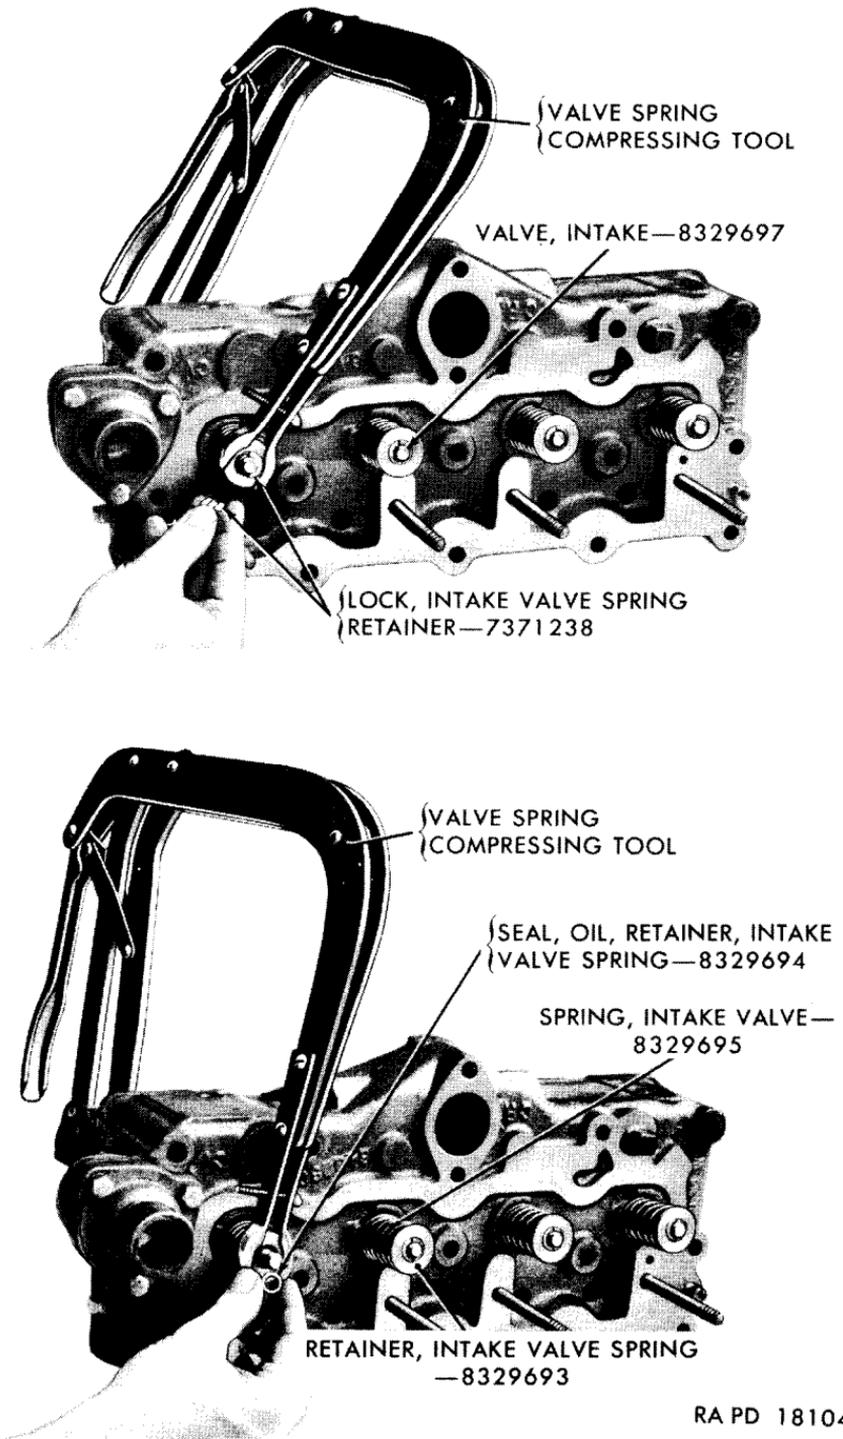

Figure 34. Removing intake valve.
f. Use a standard valve spring compressing tool (fig. 34) to compress the intake valve spring. While holding the valve spring compressed, remove the intake valve spring retainer locks and the intake valve spring retainer oil seal. Remove the valve spring compressing tool and lift the intake valve spring and the intake valve spring retainer up and off the valve stem. Remove the intake valve. Repeat the above procedure on all four intake valves.
g. Remove the four rocker arm shaft bracket studs (fig. 34).
Set the intake valve spring retainers (W) in place on the intake valve springs (W). Using a standard valve spring compressing tool (fig. 34), compress the valve springs and install the intake valve spring retainer oil seals (U) and the intake valve spring retainer locks (T).
c. Coat the threads of the three square-head pipe plugs (two $\frac{1}{4}$ -inch (AA), and one $\frac{1}{2}$ -inch (CC)) with plastic type gasket cement and install them in the tapped holes in the top of the cylinder head. Install the $\frac{1}{8}$ -inch slotted-headless pipe plug (FF) and the $\frac{1}{4}$ -inch inverted flared tube connector (BB) in the oil passage in the cylinder head.
d. Set the water temperature thermostat (B) in the thermostat opening in the cylinder head. Coat both sides of the thermostat housing gasket (C) and the threads of the attaching cap screws with plastic type gasket cement and install the gasket and the thermostat housing (D), securing the housing in place with three $\frac{5}{16}$ -18NC-2 x $\frac{7}{8}$ lockwasher cap screws (E).